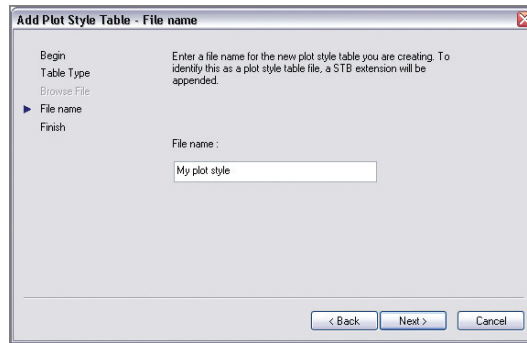

FIGURE 14.9 Typing a name for the plot style
5. For lack of a more descriptive name, type **My plot style** on the File Name page (see Figure 14.9). Click Next.